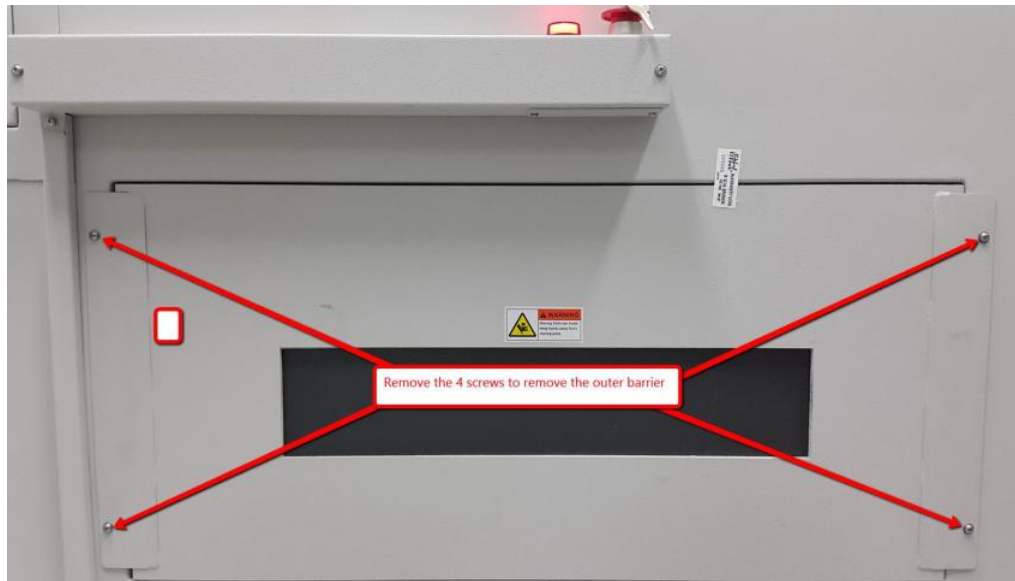

Figure 2 Left Outer Barrier
- ii. Remove 4 screws as shown in the Figure 2 & remove outer barrier